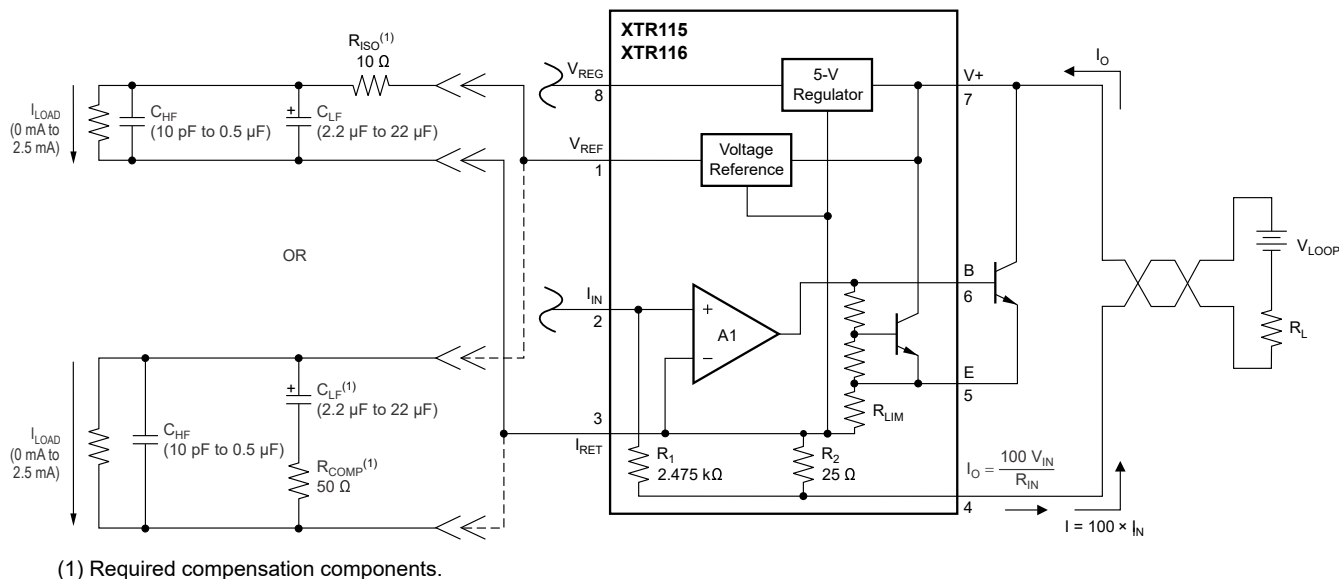

Figure 8-4. Stable Operation With Capacitive Load on V_{REF}
(1) Also see Figure 8-4.
(2) See Section 8.1.1.
Additionally, stability concerns apply to the V_{REF} reference buffer when driving capacitive loads. Figure 8-4 shows that two filtering capacitors are required, one C_{HF} of 10 pF to 0.5 μ F and another C_{LF} of 2.2 μ F to 22 μ F. Either a series isolation resistance R_{ISO} or a snubber R_{COMP} is used, depending on application requirements.